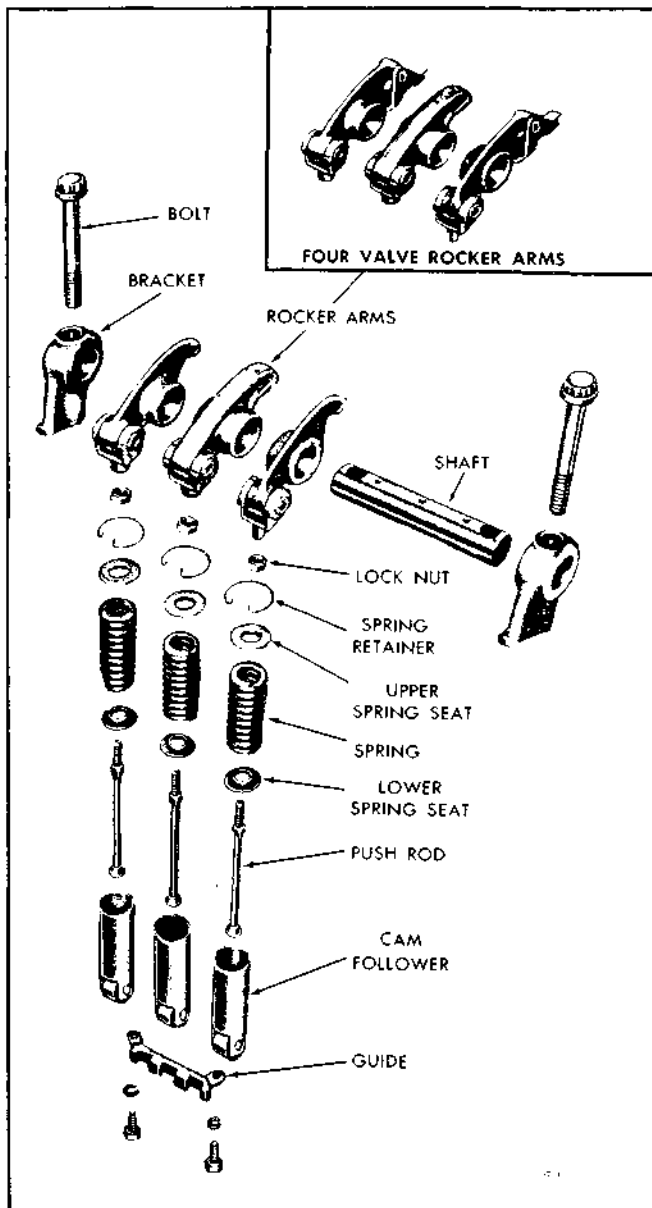
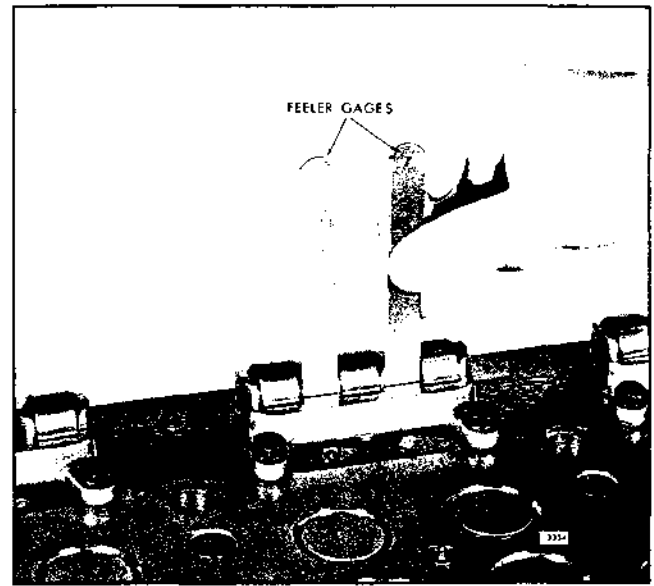
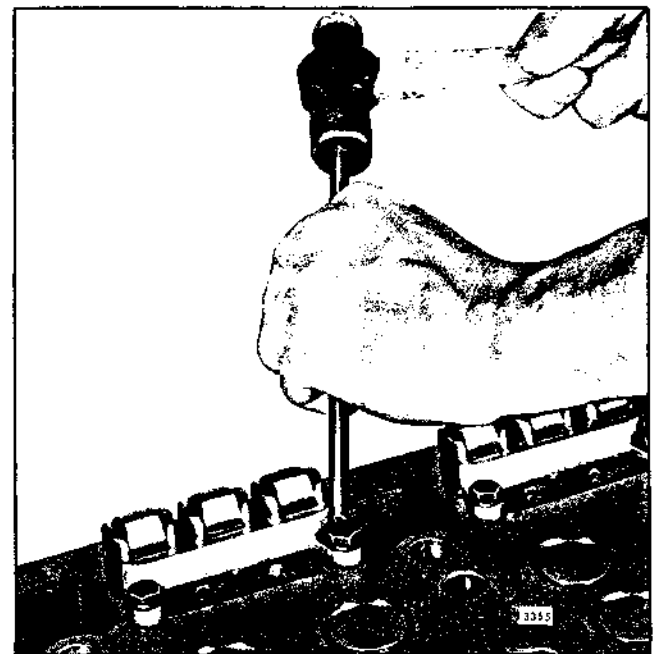

Fig. 8 - Valve and Injector Operating Mechanism Details and Relative Location of Parts
Fig. 9 - Checking the Clearance Between the Cam Follower Guide and Cam Follower Legs
Fig. 10 - Adjusting Cam Follower Guide
1. Install a serrated lower spring seat on each push rod. If the engine being assembled was equipped with plain lower spring seats, replace them with serrated spring seats (Fig. 8).
8. Attach the cam follower guide (Fig. 8) to the bottom of the cylinder head to hold the group of cam followers in place. Tighten the cam follower guide bolts to 12-15 lb-ft torque. Check to be sure there is at least .005" clearance between the cam follower legs and the cam follower guide (Fig. 9). If there is insufficient clearance, loosen the guide bolts slightly and tap each corner of the guide with a brass rod (Fig. 10). Then retighten the bolts to 12-15 lb-ft torque and recheck the clearance.